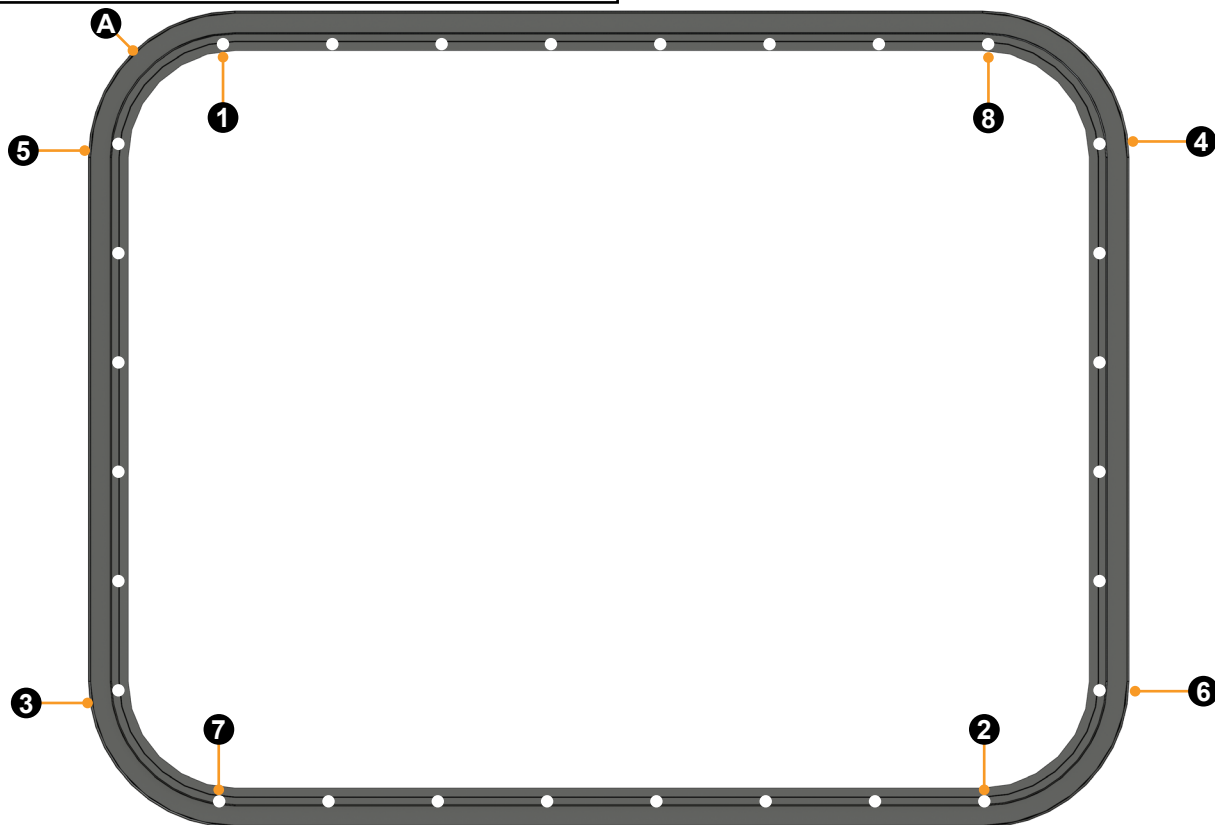

Fig.2
3. Install eight #8 screws following Figure 2 screw pattern (Fig.2, 1-8). Partially tighten these screws. Driving the screws in all the way can cause a stripped-out or broken screw head.
4. After the eight screws are partially installed, follow the screw pattern (Fig.2, 1-8) and completely tighten the screws.